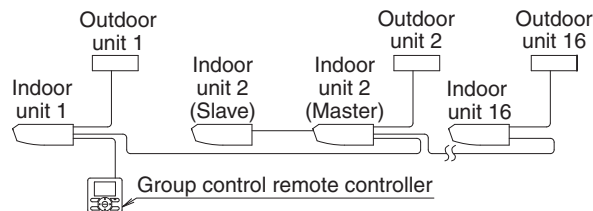

Fig. 34
- When using as a pair unit or as a master unit for simultaneous operation system, you may carry out simultaneous start/stop (group) control up to 16 units with the remote controller. (Refer to Fig. 34)
- (1) Remove the control box lid. (Refer to "9. HOW TO CONNECT WIRINGS AND WIRING EXAMPLE".)
- (2) Connect crossover wiring between the terminals (P1, P2) inside the control box for the remote controller. (There is no polarity.) (Refer to Fig. 34 and Table 3)